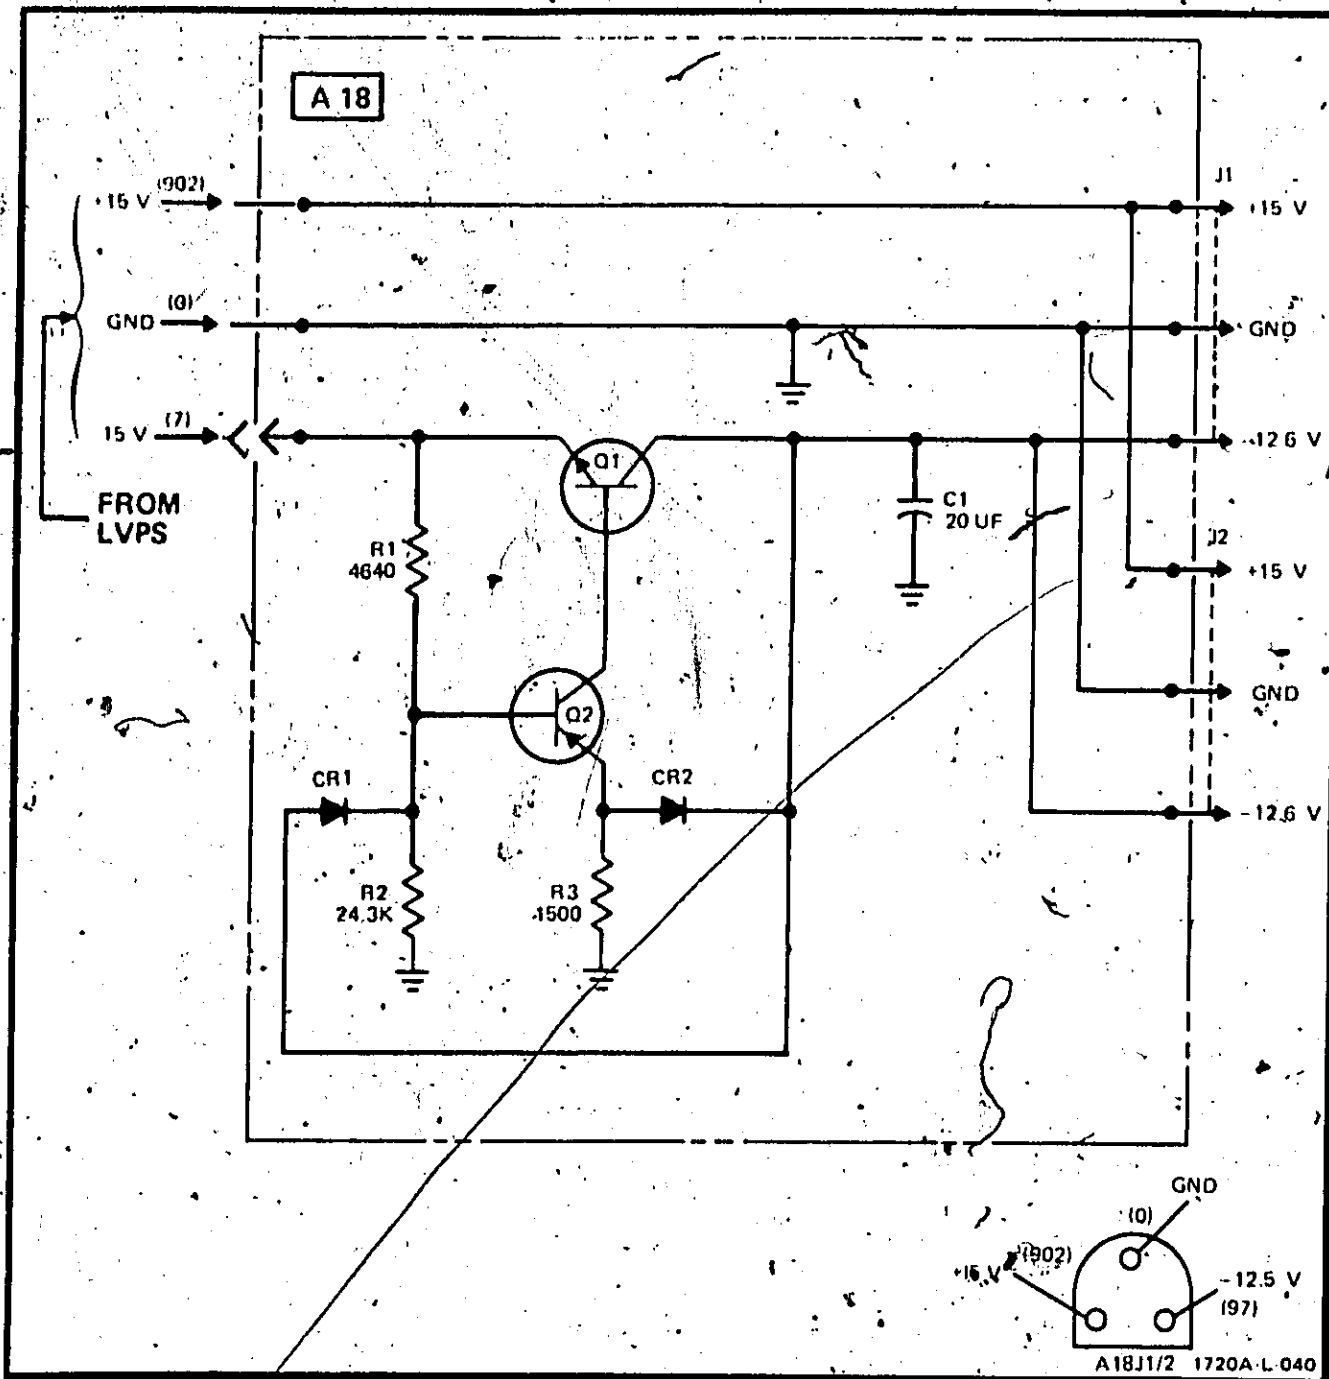

Figure 2. Probe Power Schematic
11. Apply power and check for proper voltage (refer to Figure 2).